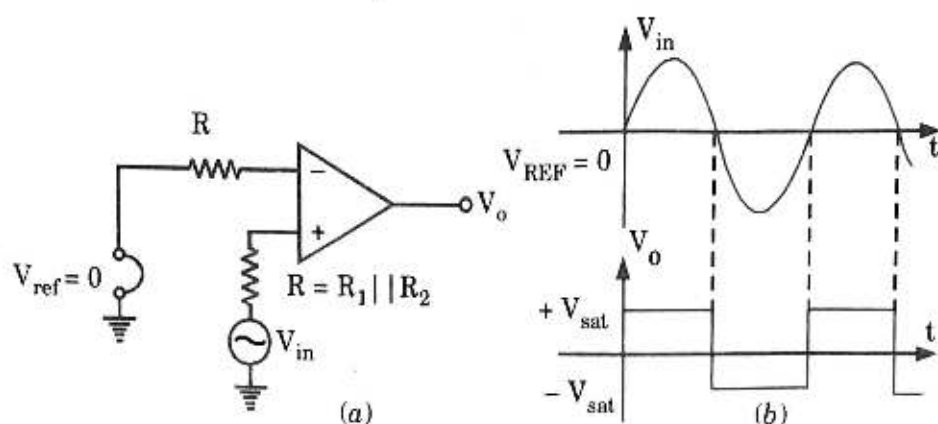

Fig. 2.14.1.
2. Whenever the input voltage crosses the x-axis, V_o changes from $+V_{sat}$ to $-V_{sat}$ or $-V_{sat}$ to $+V_{sat}$ as shown in Fig. 2.14.1.